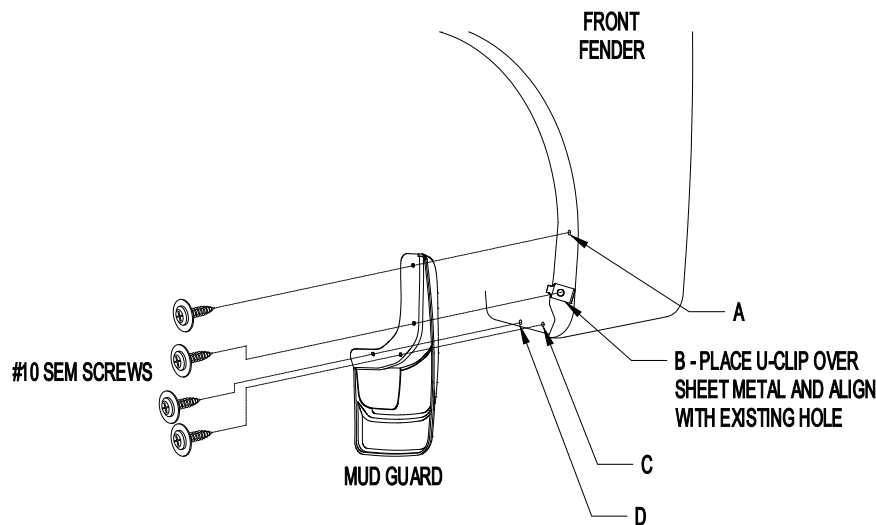

Figure 1
2. Place u-clip over sheet metal at location B and align with existing hole (Figure 1).
4. Using the mud guard as a template mark, center punch and drill 1/8" holes at location A, C and D (Figure 1).